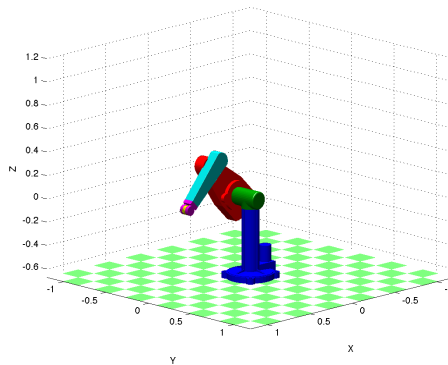

Figure 1.1: New rendered robot model using the `plot3d()` method.
- A new method `plot3d()` which uses STL format solid models to render realistic looking robots as shown in Figure 1.1. This requires STL models, such as those shipped with the package ARTE by Arturo Gil.